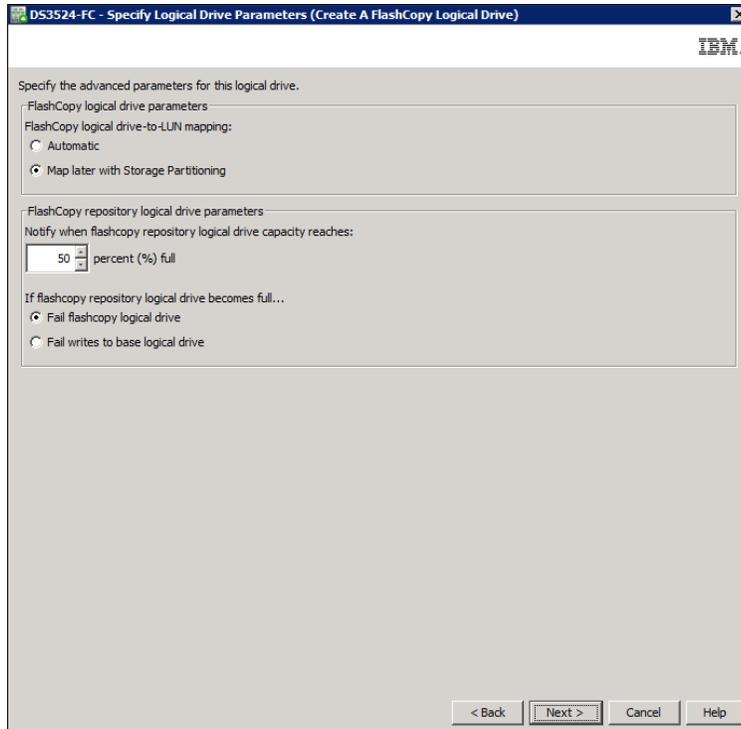

Figure 2-21 Create FlashCopy logical drive: Specify parameters
- e. The Specify Logical Drive Parameters window (Figure 2-21) opens. Define the FlashCopy logical drive-to-LUN mapping parameter and the FlashCopy repository logical drive full conditions. For more information, see 2.1.3, “FlashCopy failure policy” on page 17. Click **Next**.